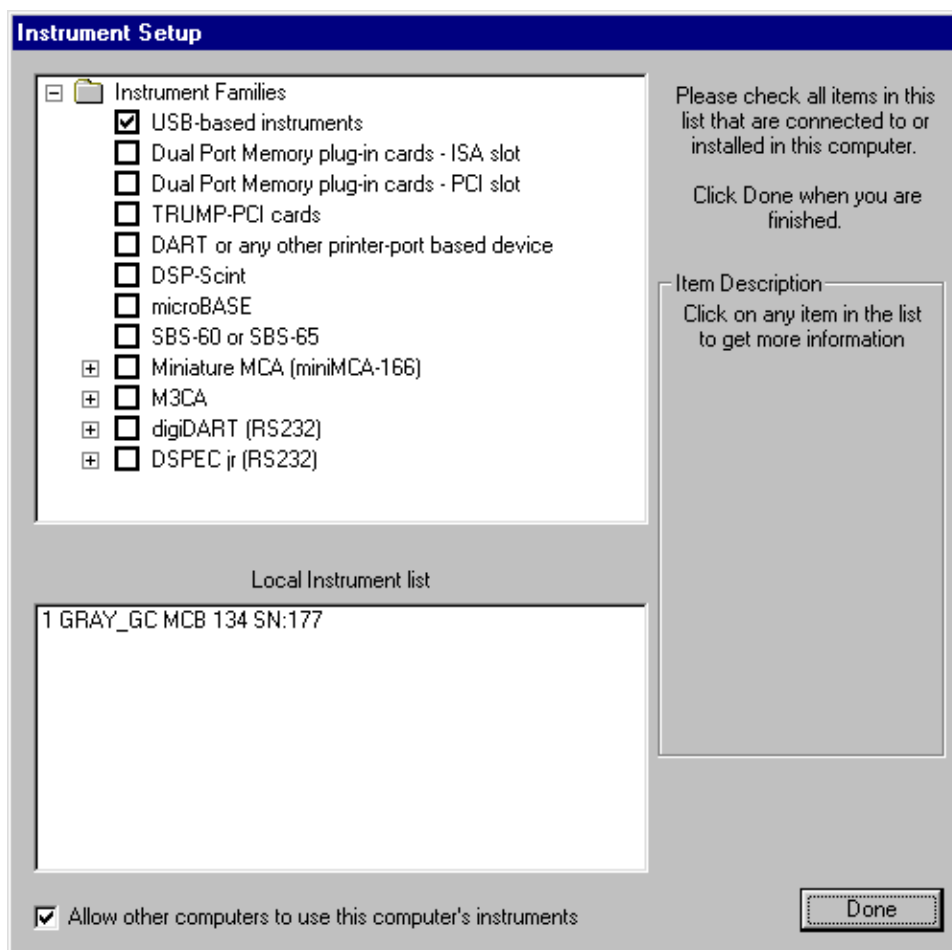

Fig. 1. Choose the Interface for Your Instruments.
2. On the Instrument Setup page, mark the checkbox(es) that corresponds to the instrument(s) installed on your PC, as shown in Fig. 1. To see more information on each instrument family, click on the family name and read the corresponding **Item Description** on the right side of the dialog.